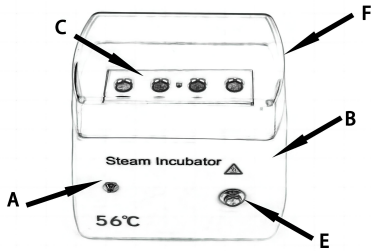

Fig.1
The incubator (Fig. 1) consists of a metal frame, a plastic housing (Fig. 1, item B), an aluminum heater (Fig. 1, item C ), three places for biological tests and an electronic board for automatic temperature control of the heater.
On the back there is a socket for connecting the plug from the supplied power adapter (Fig. 1 - item D). On the front of the device there is a START button (Fig. 1 - item E) and a warning diode STAND BY/ALARM (Fig. 1 - Item A). on the top of the device, there is a Transparent insulation lid (Fig. 1 - item F).
- Connect the power cord to a 230 electrical socket and then the 12V cord to a power socket (Figure 1)
1. Connect the 230 power cord to the power socket, then the 12V power cord to the power socket (Fig. 1 - item D).
2. The warning diode (Fig. 1 - item A) will turn red.
3. Press the Start/Stand By button (Fig. 1 - item E). The LED starts flashing with intermittent green light. The heating cycle starts. After reaching the temperature of 56 °C, the diode begins to burn with a onotonous green light. The electronic board maintains a constant temperature of the aluminum block throughout the incubation period by controlling the operation of the heater. In the event of a power failure, the device controls the temperature when returning to work. If the temperature does not fall below 52 °C, the device will reheat the block and return to work. If the temperature drops below 52 °C, the incubate or LED wil turn red.